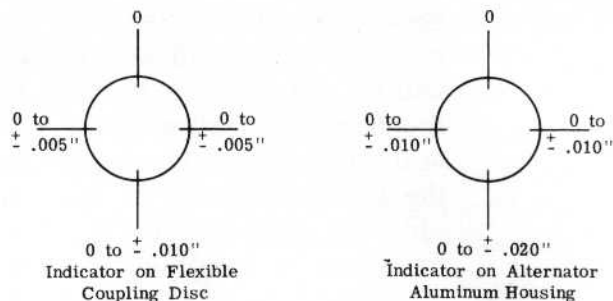

Fig. 18 - Dial Indicator Alignment Tolerances Model D12A, B, C and D Generators
e. The generator alignment is considered satisfactory when the indicator readings are to or within the indicator tolerances given in Fig. 18. To accomplish this condition will likely require slight relocation and/or shim adjustment